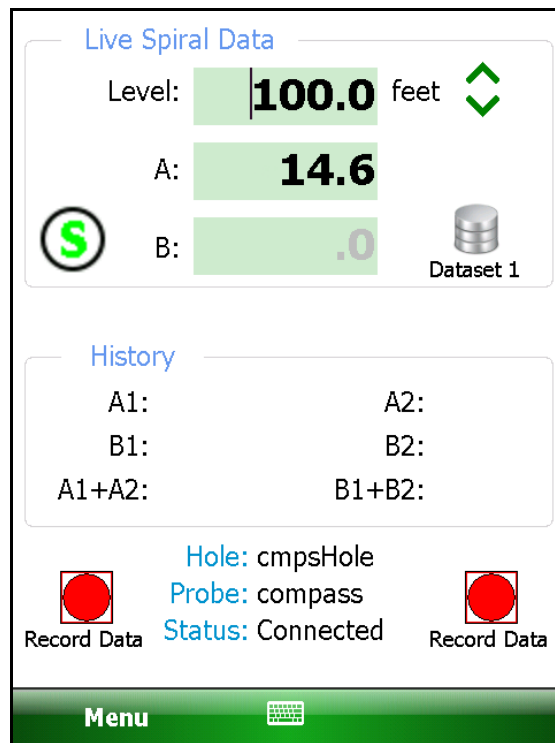

Figure 91 - Live Readings for Spiral Data
6. From the main screen, tap the "Application" menu (Figure 27) then "Live Readings" (Section 3.3.1) to display the "Live Readings" screen for compass headings (see Figure 91).